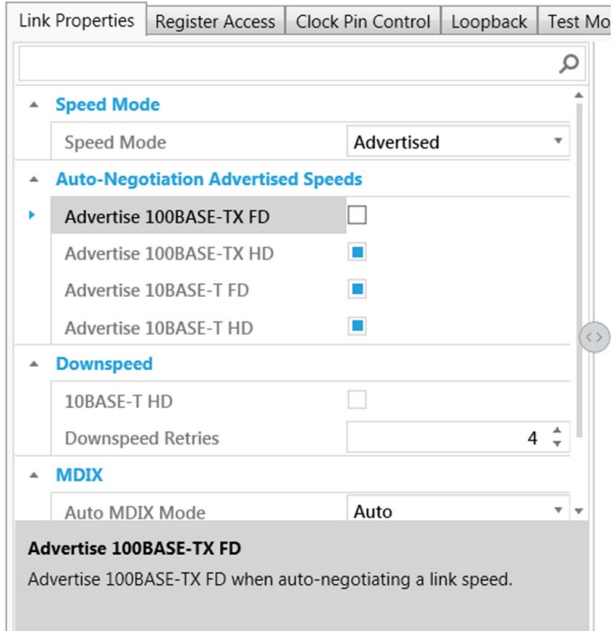

Figure 18. Link Properties Tab
a prompt describing the function at the bottom of the linking control box (see Figure 18).
- **MDIX:** use the dropdown menu to choose **Auto MDIX**, **FixedMDI**, or **FixedMDIX** (**FixedMDI** and **FixedMDIX** not shown in Figure 18).